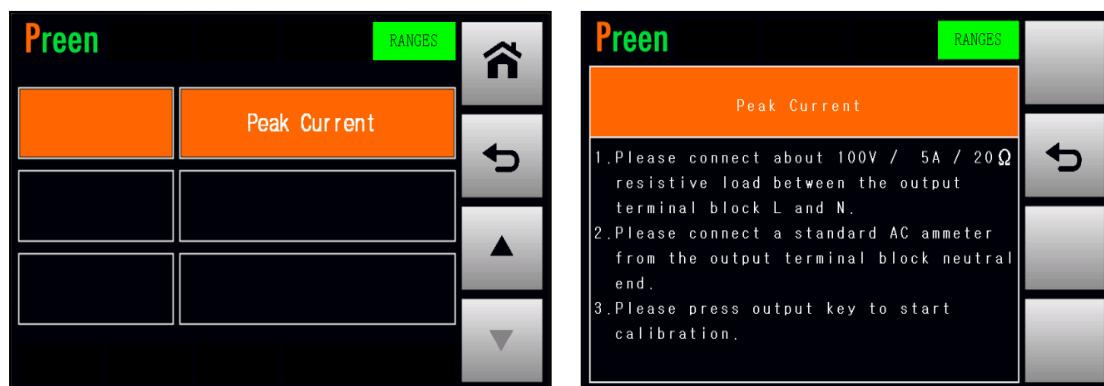

Figure 4.17 Enter into the page which calibrates the peak current
1. Press the item **Peak Current** repeatedly to enter into the page which calibrates the peak current (refer to Figure 4.17).